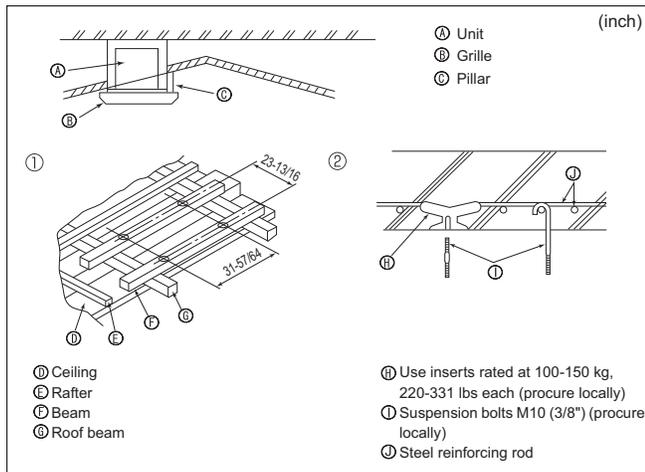

Fig. 3-5
3.5. Suspension structure (Give site of suspension strong structure) (Fig. 3-5)
① Wooden structures
② Ferro-concrete structures